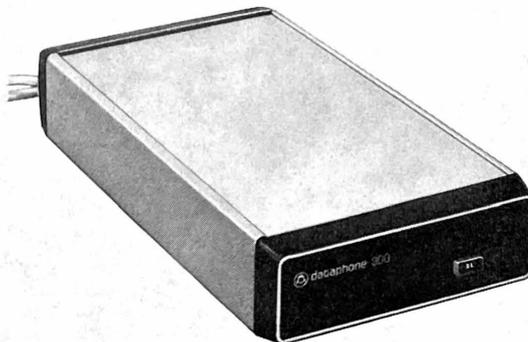
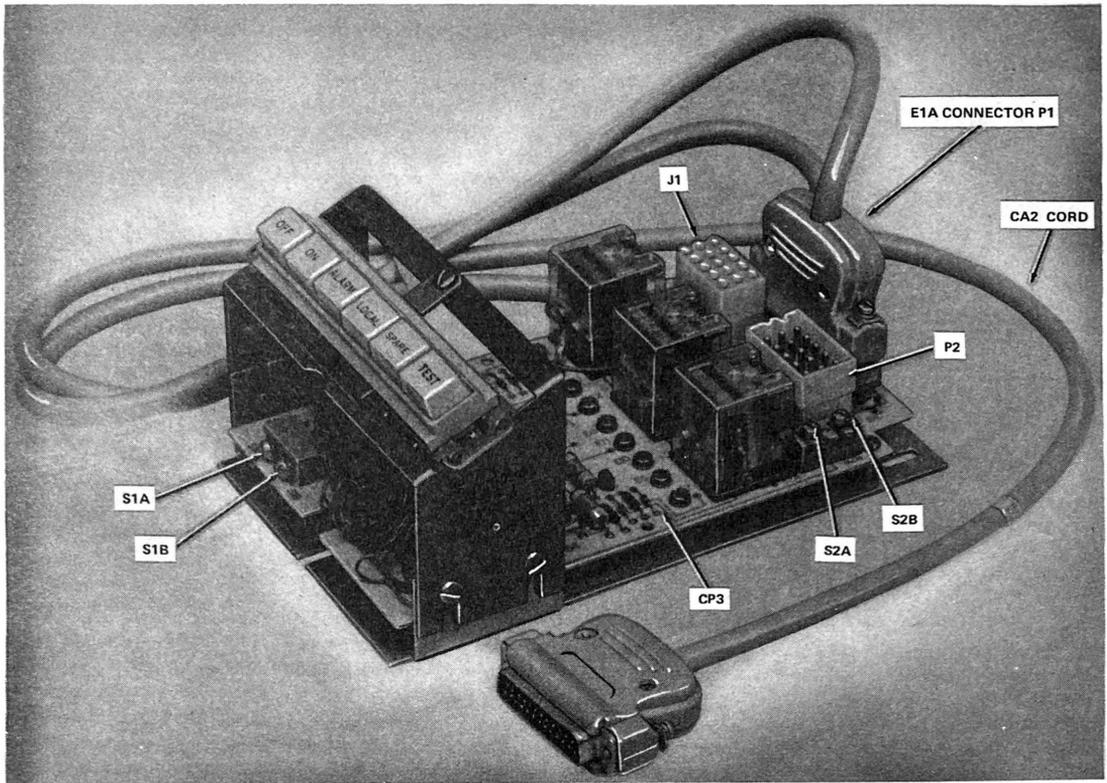
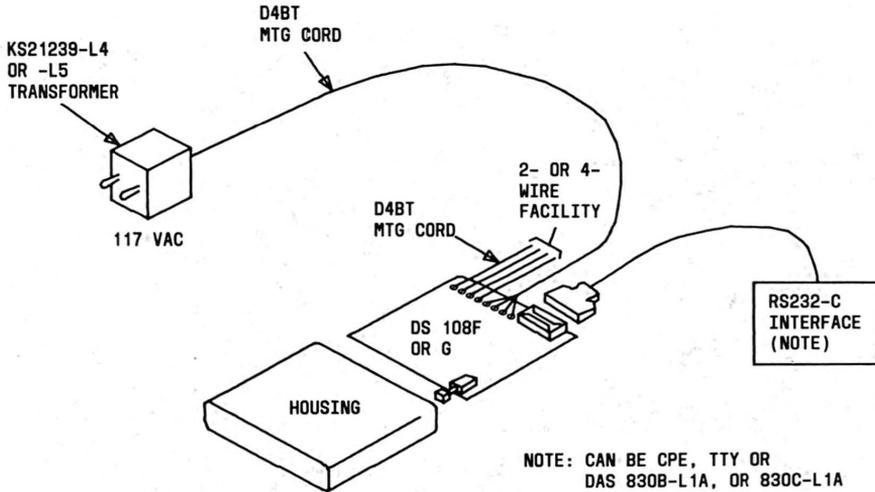

Fig. 1—DS 108F or 108G
Fig. 2—DAS 830B-L1A
Fig. 4—Typical DS 108F or G Arrangement
1.01 This section contains information concerning the installation and connection of data sets (DSs) 108F and 108G alone (Fig. 1) and with data auxiliary sets (DASs) 830B-L1A and 830C-L1A (Fig. 2 and 3). A typical arrangement is shown in Fig. 4.